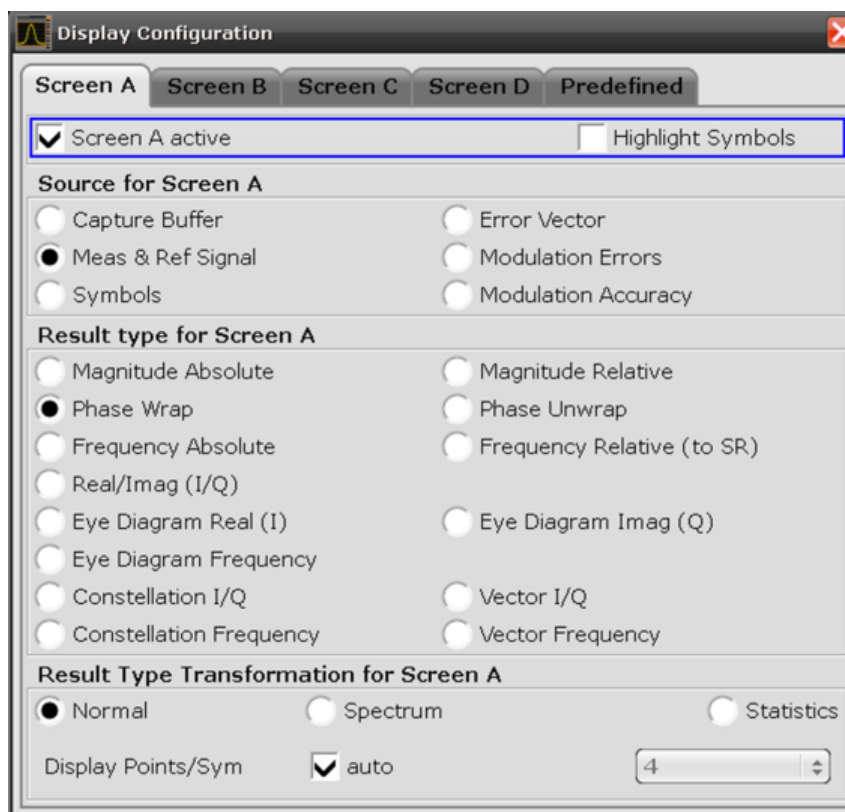

Fig. 4-5: R&S FSV-K70: Customized display configuration
2. Close screen A by disabling "Screen A active" (highlighted in figure 4-5) and close the dialog. You will now see only three screens in your display layout.
- Result Type: "Eye Diagram Real (I)"